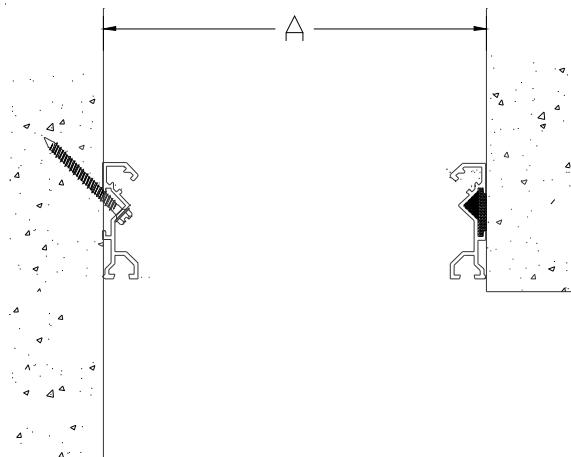

Figure 7
**STEP 10.** Place the base member into its installed position. Ensure that the base member is level, straight, properly aligned with the anchored base member, and recessed 1/8" from the front surface of the wall, see Figure 7.